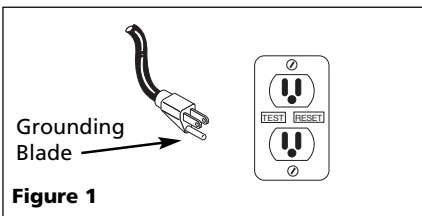

Figure 1
10. The BALE311A, BALE411A, and BALE511A are only for use on 120 volt, single phase service. BALE521A and BALE621 are only for use on 230 volt, single phase service. Both models are equipped with an approved 3-conductor cord and 3-prong, grounding-type plug as shown in Figure 1.
- a. Inserting plug directly into a properly installed and grounded 3-prong, grounding-type receptacle (as shown in Figure 1).